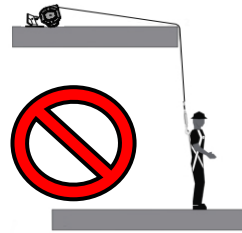

Fig. 6
- Do not allow the cable, extension strap or shock absorber to drape over an edge during normal work as this may abrade, damage, or otherwise compromise the cable, extension strap or shock absorber (see Fig. 6).